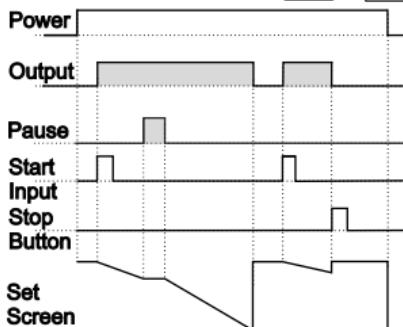

Figure 4.1
4.1.1 If Downcount `dEct`=1 and `outF` is `o-n` the control diagram is shown in Figure 4.1